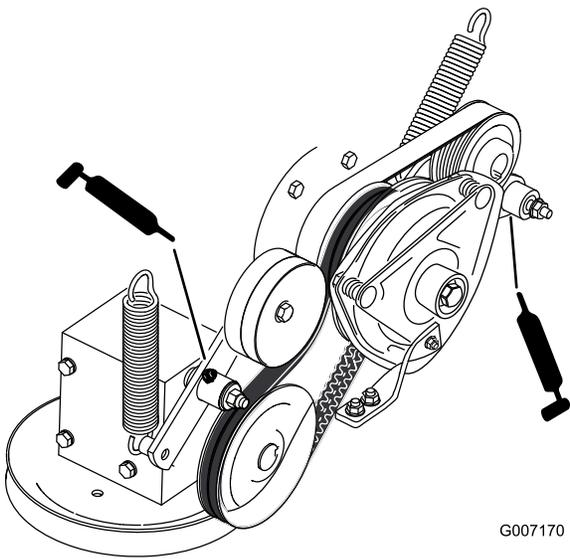

Figure 43
7. Grease the PTO-drive belt idler arm (Figure 43).
8. Grease the pump belt idler arm (Figure 43).